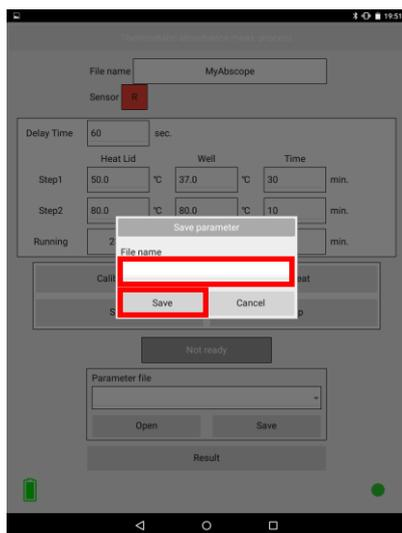

Figure 4-8: Parameter save screen
(7) (1) Enter “Delay Time*.” If not specified or specified as “0,” zero adjustment and absorbance measurement will start just after the “Start” button is tapped.
(8) Set the intended values for the HeatLid temperature, Well temperature, and heating time (2).
When all parameters are specified, the status indication changes to “Ready” (Figure 4-8). By specifying the temperature and time in (3), you can also define two-step temperature change (for example, for enzyme deactivation).
To save the parameters, tap the parameter file save button (10) in Figure 4-7, enter the file name on the save screen shown in Figure 4-8, then tap “Save.” If you tap “Cancel,” the file is not saved.